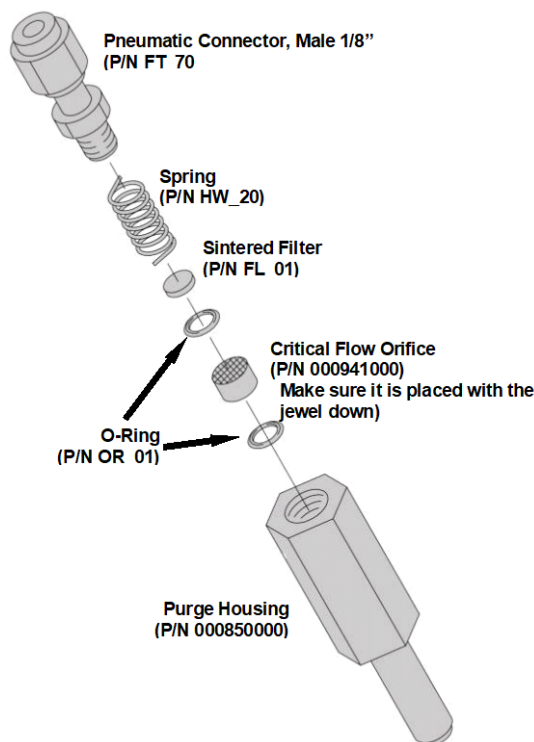

Figure 8-5: Critical Flow Restrictor Assembly Disassembly
4. Remove the fitting and the components as shown in the exploded view in Figure 8-5.